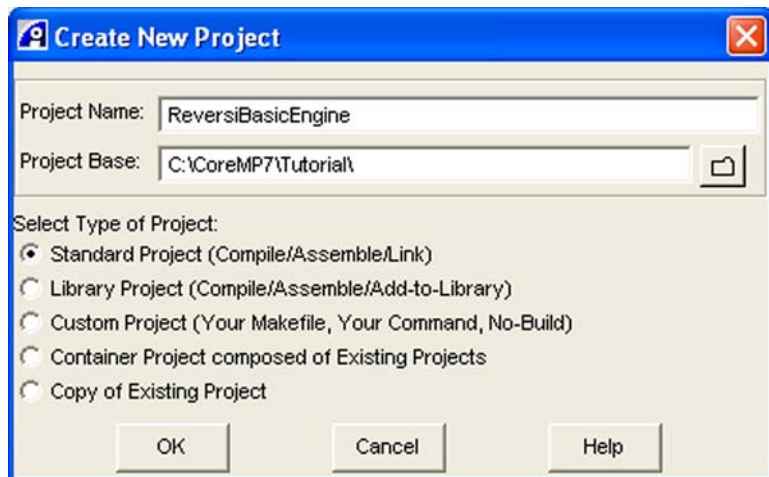

Figure 5-53. RealView Create New Project Dialog Box
3. From the **Project** menu, select **New Project**. This displays the Create New Project dialog box, as shown in Figure 5-53.